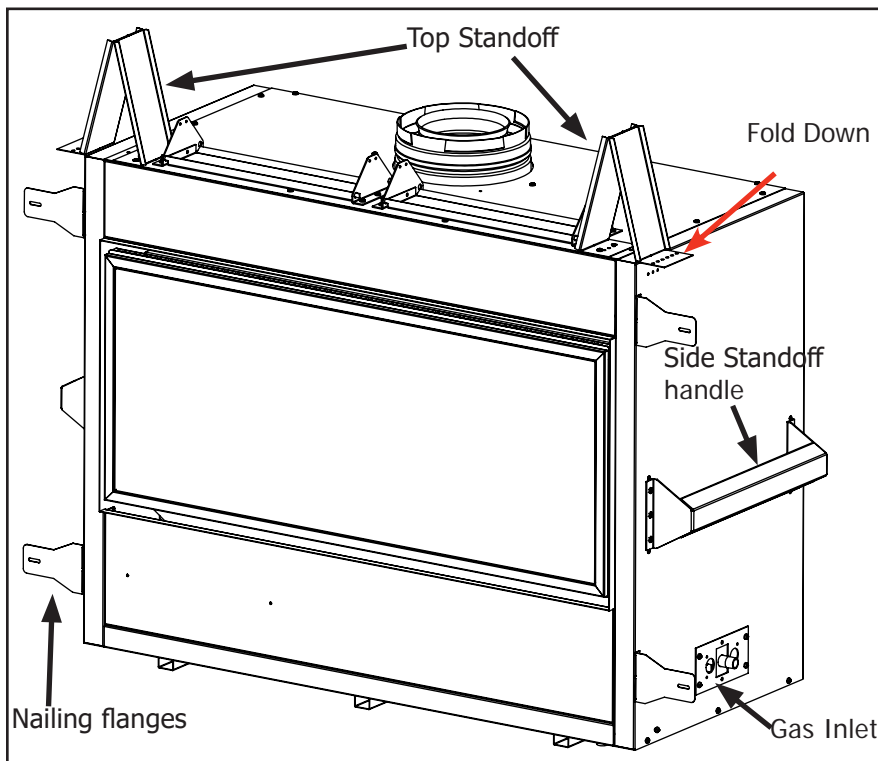

Figure 13: Fireplace Installation Prep. - 1
Take a minute to familiarize yourself with Figure 13 below.
- The top framing standoffs will need to be folded up and secured with a T-20 screws on top and side of the cabinets, This can be seen in Figure 13.